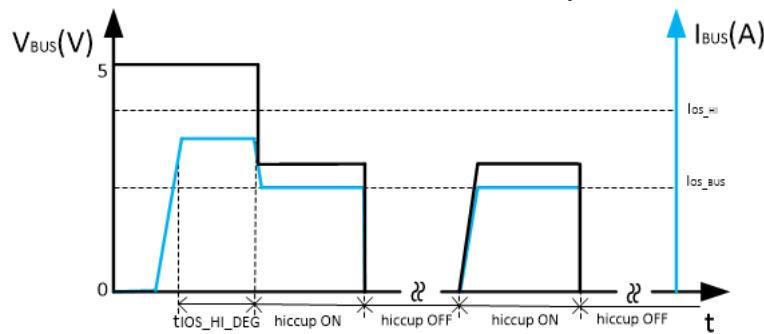

图 10-12. BUS Overcurrent Protection
- The second condition is the load current increases above I_{OS_BUS} but below the I_{OS_HI} setting. The device allows the USB port to output this large current for $t_{IOS_HI_DEG}$, without limiting the USB port current to I_{OS_BUS} . After the $t_{IOS_HI_DEG}$ deglitch time, device will limit the output current to I_{OS_BUS} and works in a constant current-limit mode. If the load demands a current greater than I_{OS_BUS} , the USB output voltage decreases to $I_{OS_BUS} \times R_{LOAD}$ for a resistive load, which is shown in 图 10-12. If the overcurrent limit condition lasts longer than 4.1 ms, the corresponding USB channel enters hiccup mode with 524 ms of off-time and 4.1 ms of on-time. Another USB channel still works normally.